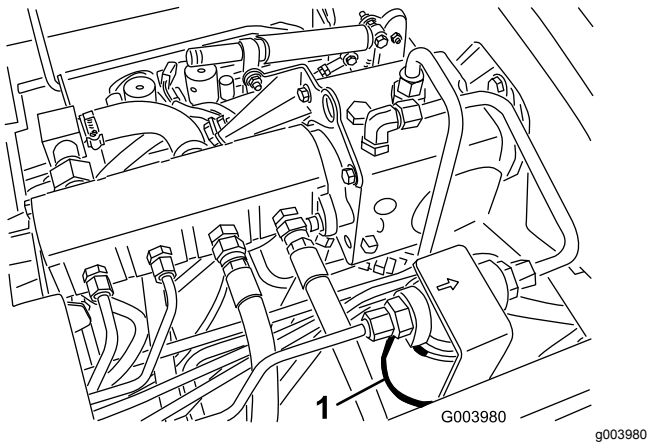
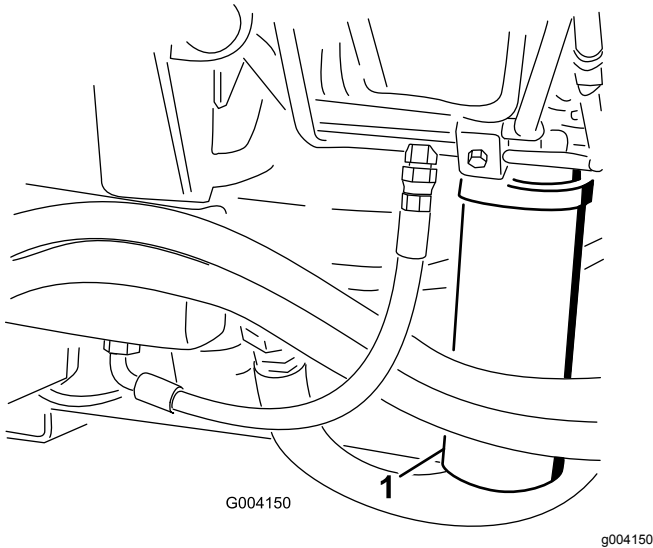

Figure 71
Figure 72
2. Clean the area around the filter mounting area and place a drain pan under the filter (Figure 71) and (Figure 72).